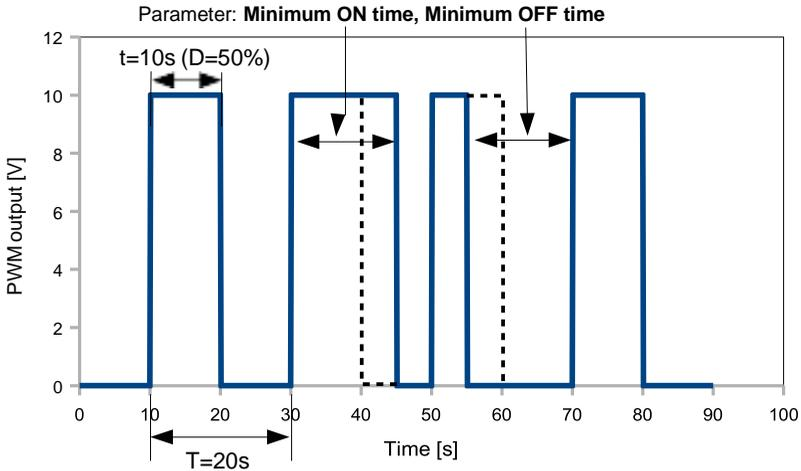

Fig. 7.93. Sample of output signal of SSR relay in PWM mode
- **Minimum ON time** - minimum duration of a high state (after switching to a high state, switching back is possible after **Minimum On time**), see Fig. 7.93,
- **Minimum OFF time** - minimum duration of a low state (after switching to a low state, switching back is possible after **Minimum OFF time**), see Fig. 7.93,